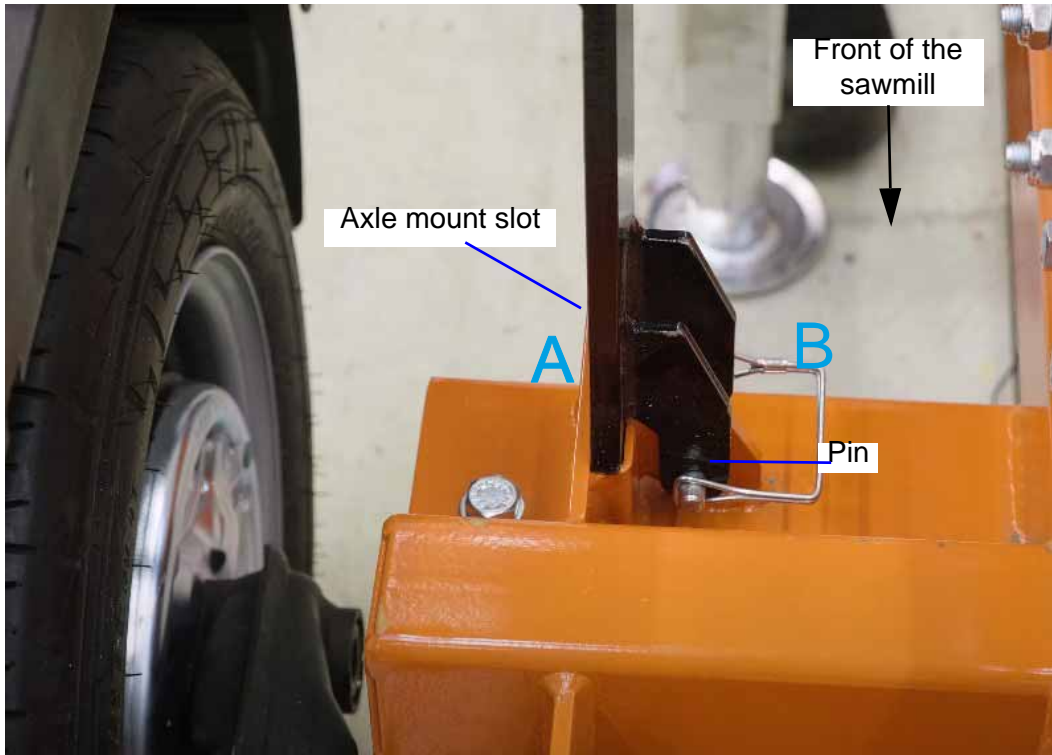

FIG. 3-26
See figure 3-26. The assembled axle place in the axle mount slot (A) and secure with a pin (B). Secure the pin with steel cable, as shown on the figure below. .